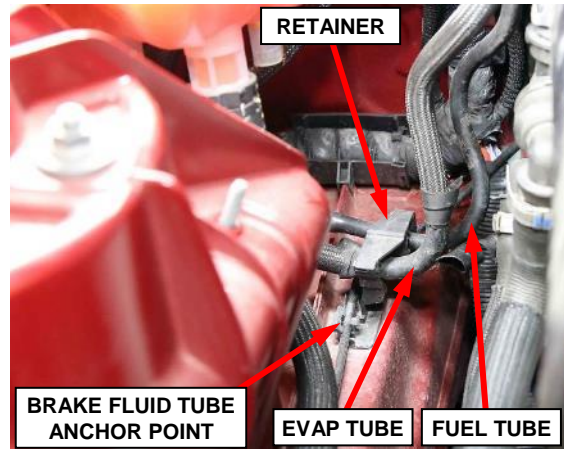

Figure 37 – Tube Retainer
50. Remove the fuel tube and Evaporative Emission (EVAP) tube from the retainer (Figure 37).
51. Release the brake fluid tube from the anchor point (Figure 37).
75. Attach the brake fluid tube to the anchor point (Figure 37).
76. Install the fuel tube and Evaporative Emission (EVAP) tube to the retainer (Figure 37).